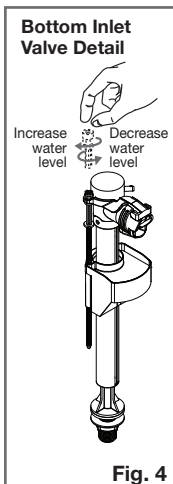

Fig. 4
- 6- Adjust water level. Turn on water mains. Open the Cistern Stop Valve and check the operation of the mechanisms and valve. Adjust water level to the water level mark inside the cistern by simply turning the float arm adjustment screw in a clockwise or anti clockwise direction as detailed in **Fig. 4**.
- 7- Adjust water level to the 4.5 litre water level mark inside the cistern by simply turning the float arm screw in a clockwise or anti-clockwise direction as detailed in **Fig. 4**.